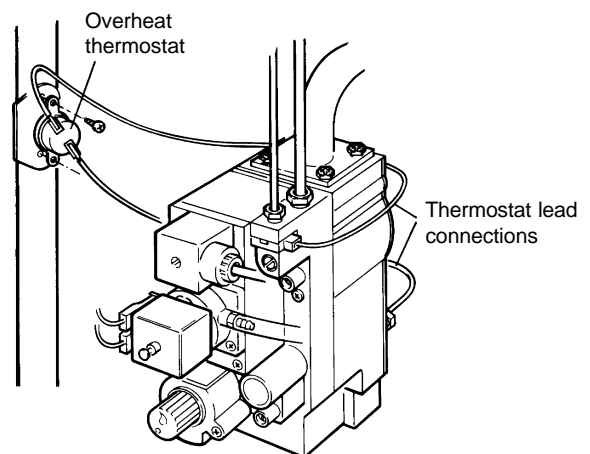

Fig. 22
8.9 OVERHEAT THERMOSTAT - Fig. 22